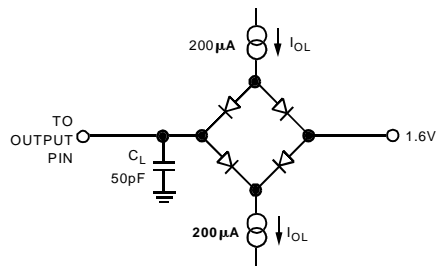

Figure 3. Load Circuit for Access Time and Bus Relinquish Time
- ¹² Measured with the load circuit of Figure 3.